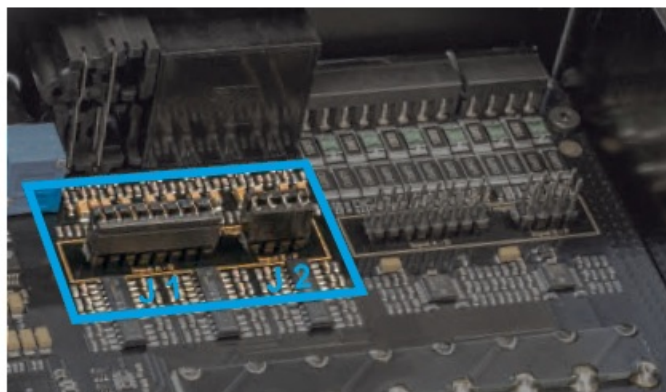

Figure 3
1. Adjust jumpers on the unused pin header as shown in Figure 3.
connect a factory-installed amplifier as signal source, we recommend to determine its maximum output voltage previously with a suitable measuring device or to contact your authorized HELIX dealer. If you are not sure, we recommend to set the jumper to “High Voltage Range” (Line 2 – 8 V / Highlevel 8 -32 V) to avoid possible damage to the device. Therefore, both jumpers have to be repositioned to the factory unused multipin connector, see fig. 3.